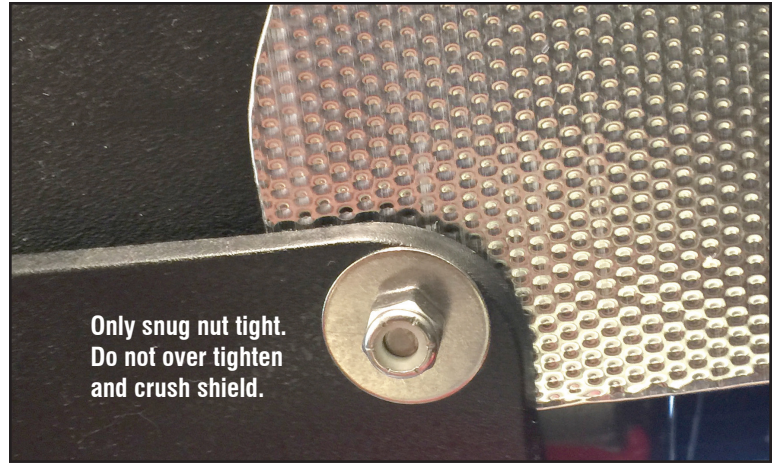

Figure 6
7. Install the supplied bolt washers and nut through the factory hole in the passenger foot well sandwiching the DEI shield between the factory plastic parts. Tighten to snug only, do not over tighten. See fig 6